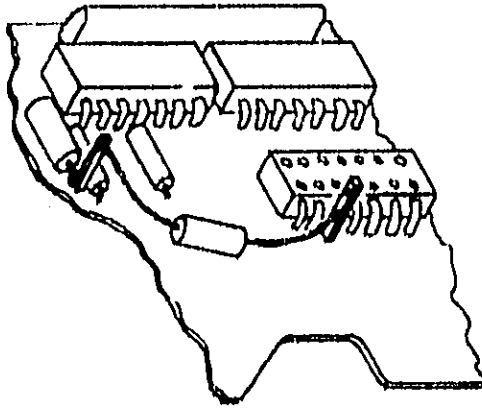

Figure 1.
*Refer to Figure 1 for the following steps.*